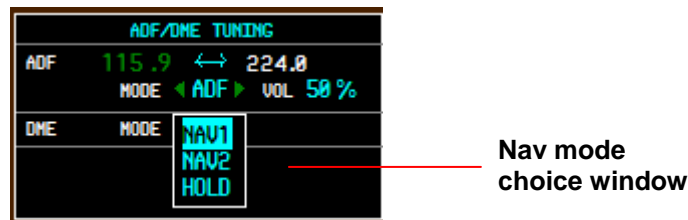

Figure 3.17
4. **ADF/DME Window** - DME part displays the selected Nav mode. A popup window gives the user the ability to choose between Nav1, Nav2, and Hold modes (Figure 3.17).